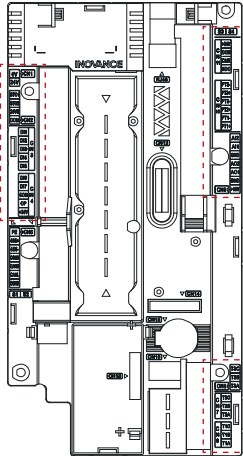

Figure 4-19 Removing control terminal cables
3. Remove the cables connecting to the control circuit terminals ①, ②, ③, and ④ (terminals as shown in the dashed box in *"Figure 4-19 Removing control terminal cables" on page 26*) of the AC drive.